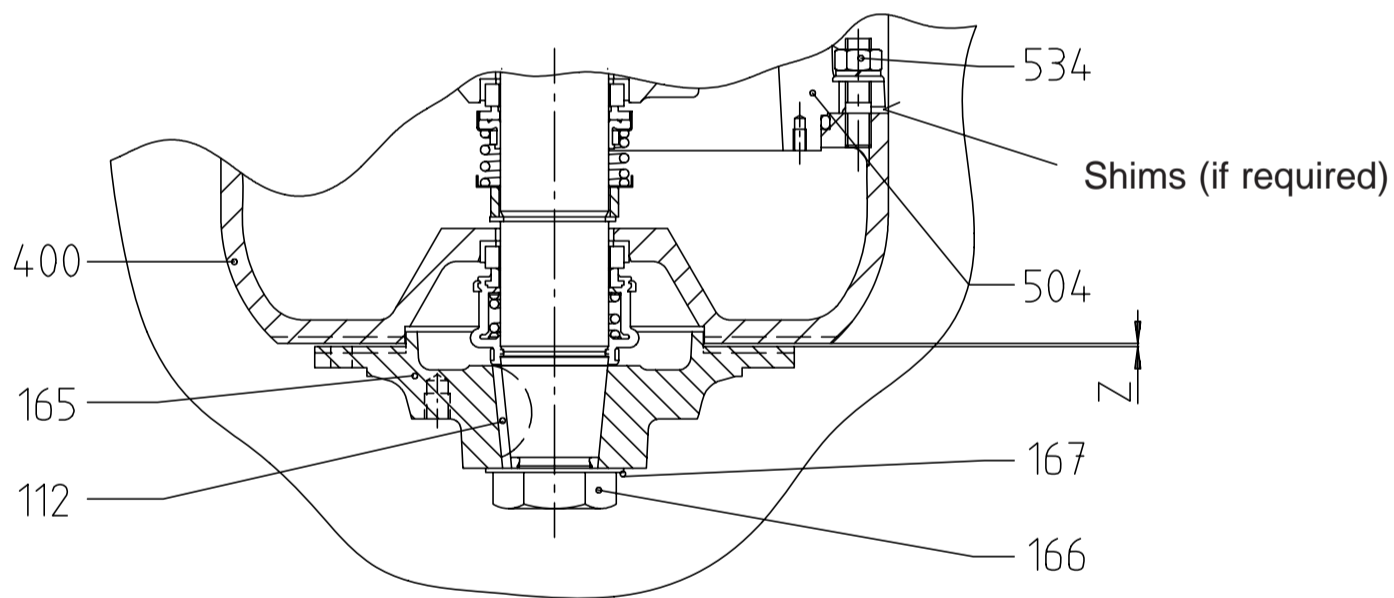

Fig 26
The nut must be tightened to 120 Nm (90 ft-lbs) by using torque wrench. Bend over locking washer tab. Measure the clearance between the impeller flange (165) and the casing (400) with a feeler gauge. This clearance must be within the values given in the table below. If ever the clearance has to be adjusted, this can be done by inserting or revising shims between oil chamber casing (504) and casing (400) (Fig. 26).